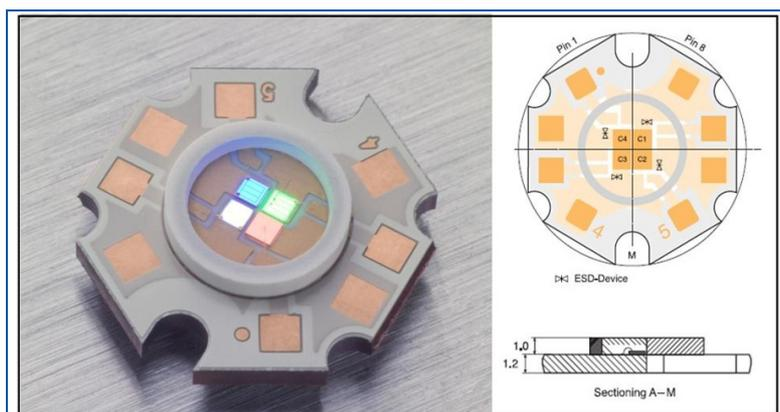
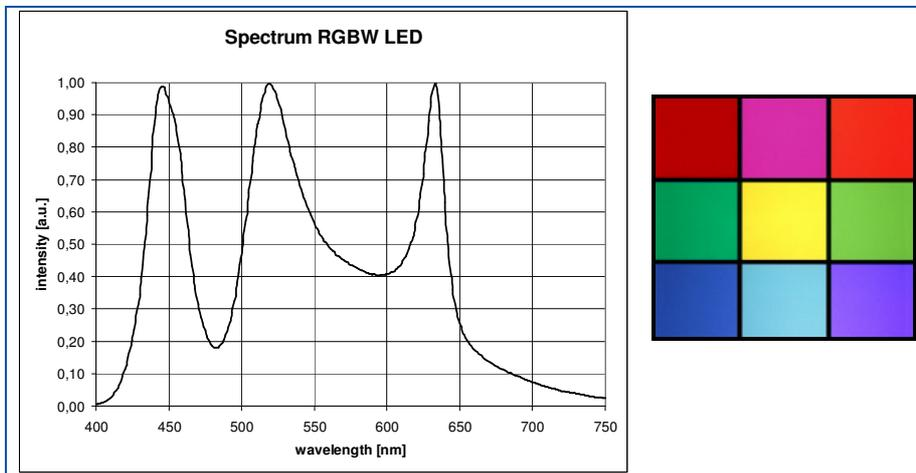

Figure 1: Example of high-performance multi-color LED in CoB (PerkinElmer's ACULED® VHL™ RGBW)
Figure 12: a) color rendering of ACULED VHL RGBW
Figure 1 shows the typical layout of a high-performance, multi-color LED. The chips are placed in the middle of the board, protected by a PPA-based ring and silicone resin encapsulation. The latter is transparent and suitable for a wide radiation range from ultraviolet (UV) to IR. These characteristics achieve superior light radiation resistance, degradation mitigation, and the ability to maintain LED color purity over the LED's lifetime.
A design with four closely-placed chips (see Figure 1) will have a small, but bright, light-emitting area that achieves excellent color mixing with multi-color configurations. A high-precision chip placement with less than 20  $\mu\text{m}$  placement tolerance to a reference mark makes it a superior and reliable light tool, especially when used with optics. For easy and cost-effective process flow, the high-performance, multi-color LED should be supplied in a package that allows automatic pick-and-place processing, such as a standard blister tape.
The above results ultimately conclude that a combination of white converted LEDs with red, green and blue LEDs will achieve a highly-efficient multi-color LED (see Figure 1), including excellent color rendering and color tunability. Figure 12 shows the spectrum and results for the illuminated color stripe with an RGB White (RGBW) - LED.
The achievable high color rendering indices of RGBW LEDs allow their use, for example, in operational lamps and add the ability to change color temperatures, if necessary. Taking an all-in-one unit with the tightest possible chip spacing (see Figure 1) will also reduce cast shadows, with or without additional optical beam shaping.